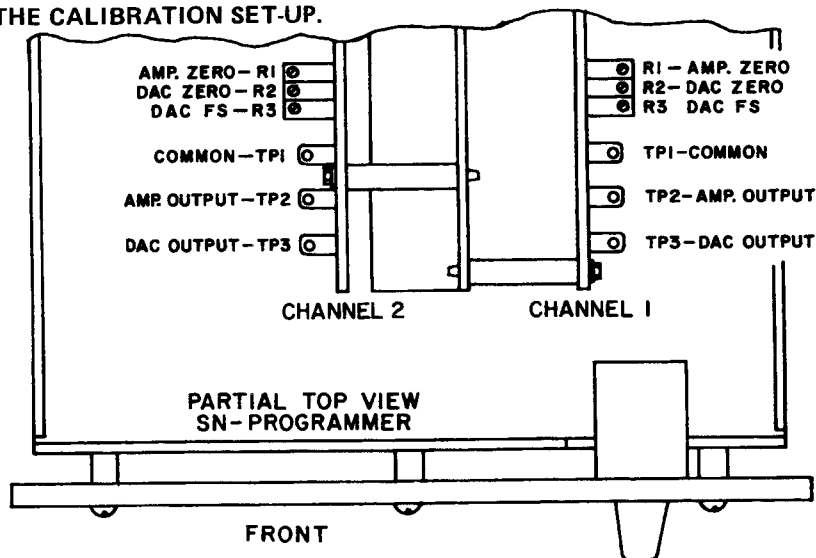
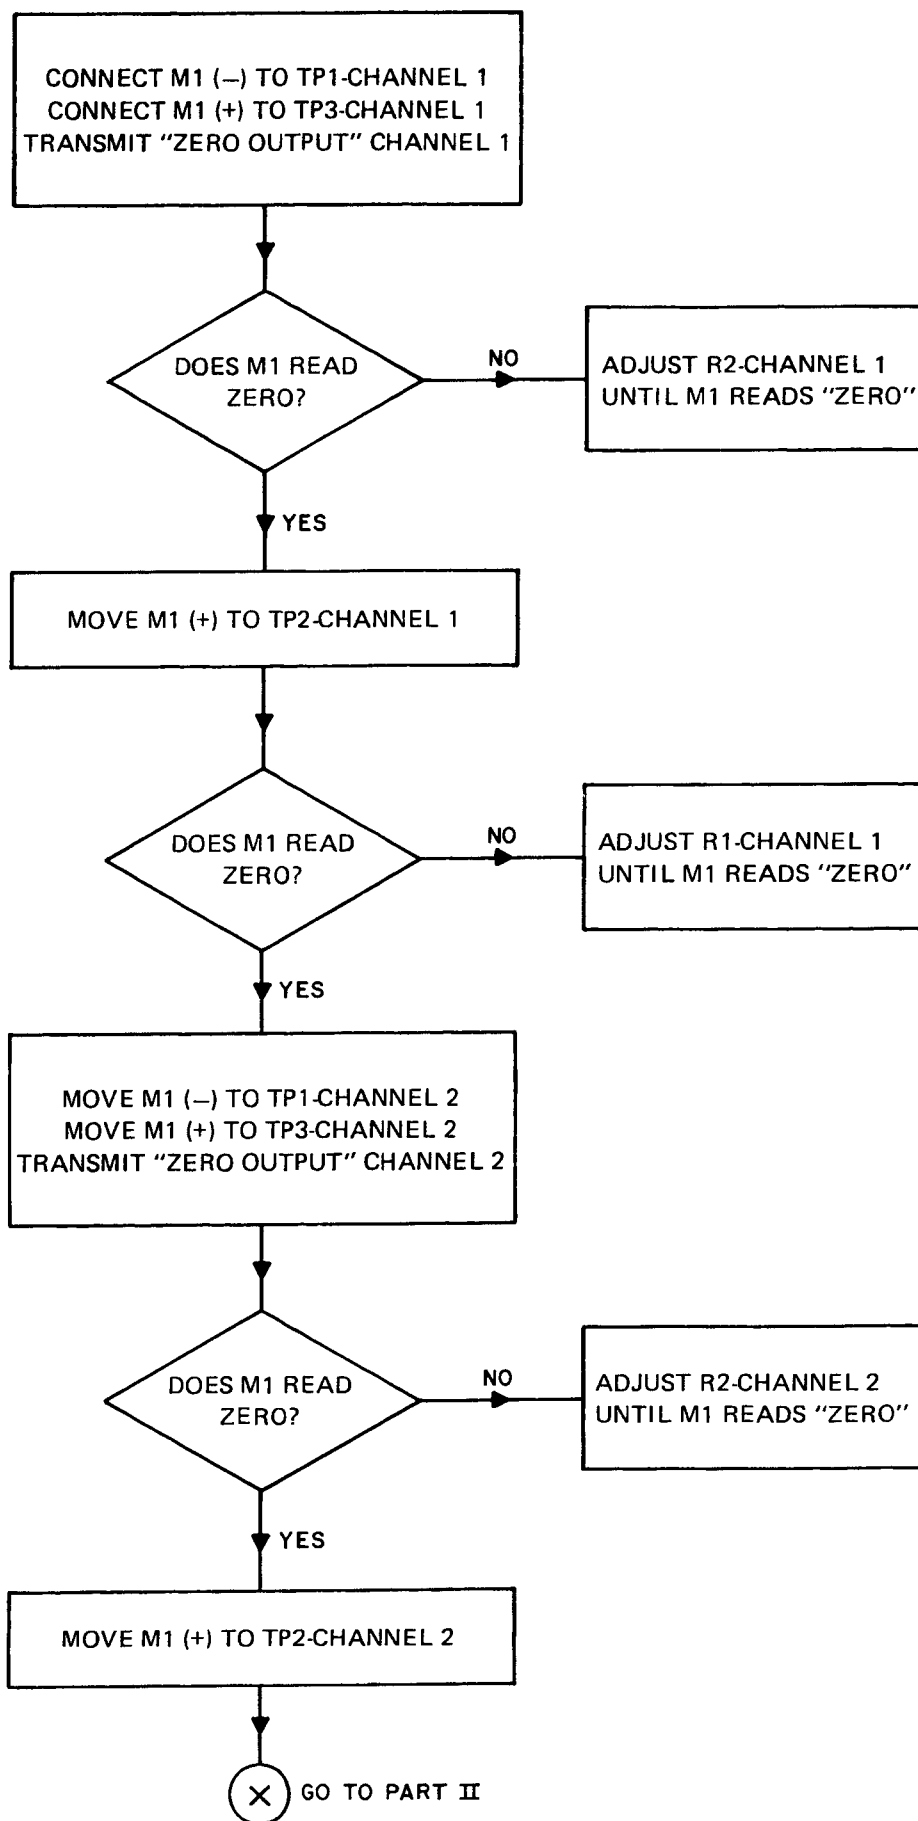

FIG. 3-8 LOCATION OF TEST POINTS AND CALIBRATION CONTROLS, SN 488 AND SN 500 DIGITAL PROGRAMMERS
FIG. 3-9 CALIBRATION FLOW-CHART, PART I
- B) Refer to Fig. 3-8 for the location of TEST POINTS and CALIBRATION CONTROLS. Proceed as directed on the FLOW-CHART, Fig. 3-9 and Fig. 3-10.